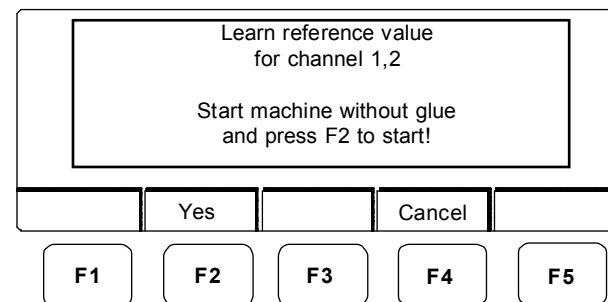

Figure 13-15.
2. Press F1 (Onetime) to select one-time mode. The screen in Figure 13-15 displays.